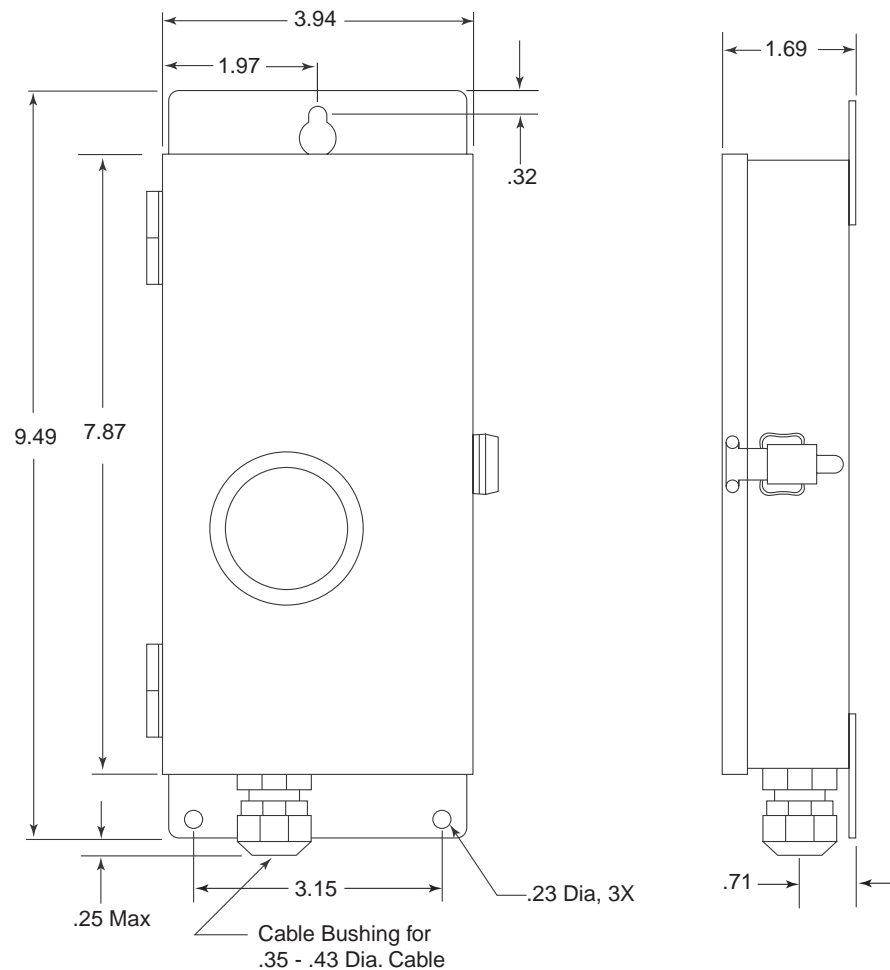

Figure 3: Mounting the GD-K8A
2. Use three #10 screws through the mounting holes in the mounting flanges at the top and bottom of the housing to mount the GD-K8A to a vertical surface (see Figure 3).